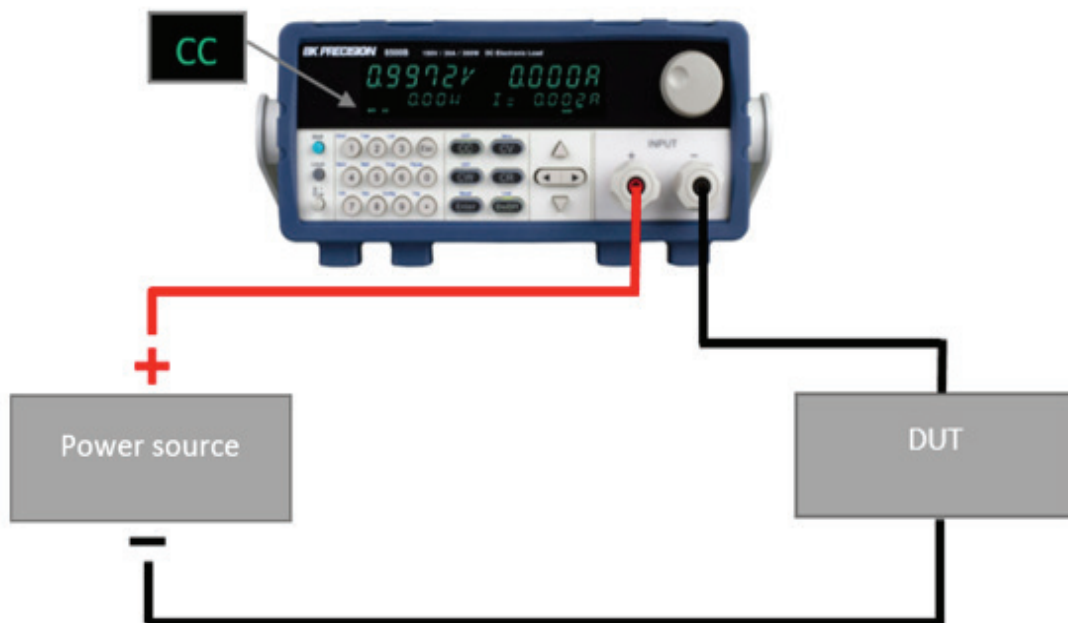

Figure 1: 8500B DC Electronic Load in CC mode
1. Place the DC load in series with the DUT as shown in Figure 1 below.
2. Power on the DC Load and set it to Constant Current (CC) mode.